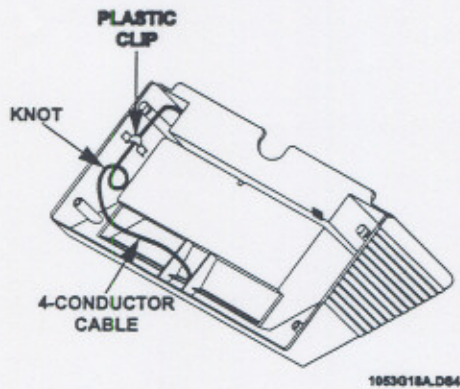

Figure 3. Plastic Clip and Wire-Knot Location
- 2) Run the wire through the plastic clip inside the base (see Figure 3). Pull enough wire through so that it reaches across to the center of the base.
- 3) Tie a knot (not too tight) in the cable next to the plastic clip (see Figure 3). This helps prevent the wire from being pulled off the panel terminals.